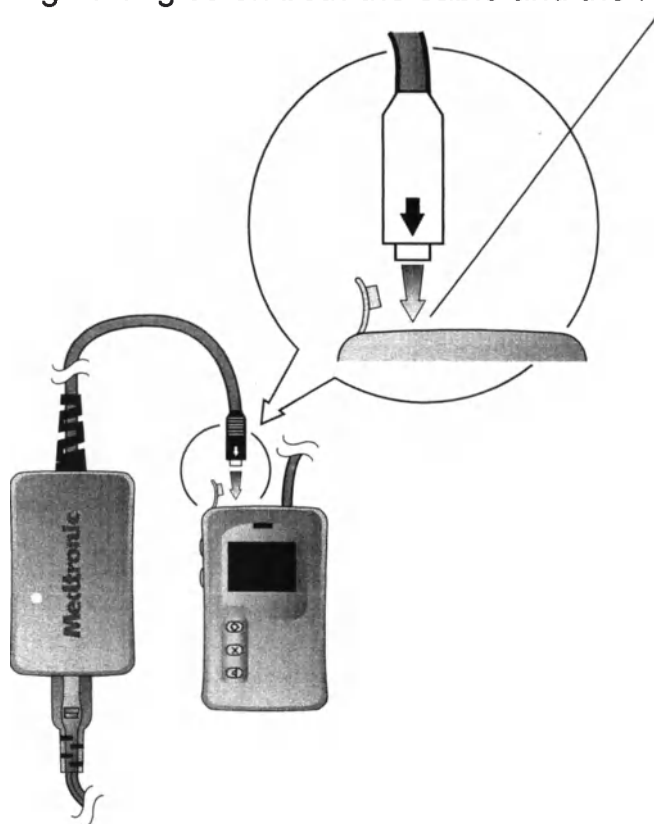
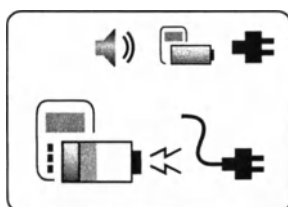

Figure 4.3 Connect the recharger to the AC power supply.
Figure 4.4 Recharger charging session screen.
2. Connect the recharger to the AC power supply (Figure 4.3). The recharger will automatically start to charge when connected to the AC power supply, and the **Recharger charging session** screen will be displayed (Figure 4.4).